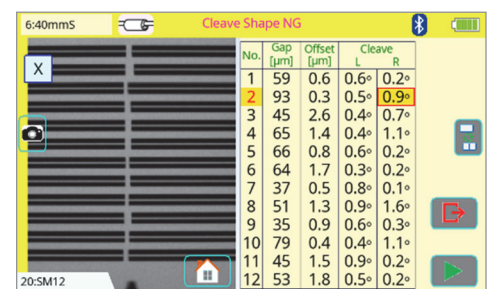

Figure 5
**Cleave Shape NG** means the end-face of the fiber is not flat and smooth (**Figure 5**).